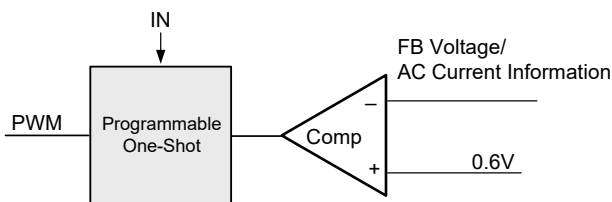

Figure 3. Simplified Control Schematic of AOZ2264NQi-11
The simplified control schematic is shown in Figure. 3. The high-side switch on-time is determined solely by a one-shot whose pulse width can be programmed by one external resistor and is inversely proportional to input voltage (IN). The one-shot is triggered when the internal 0.6V is higher than the combined information of FB voltage and the AC current information of inductor, which is processed and obtained through the sensed lower-side MOSFET current once it turns-on. The added AC current information can help the stability of constant-on time control even with pure ceramic output capacitors, which have very low ESR. The AC current information has no DC offset, which does not cause offset with output load change, which is fundamentally different from other V2 constant-on time control schemes.